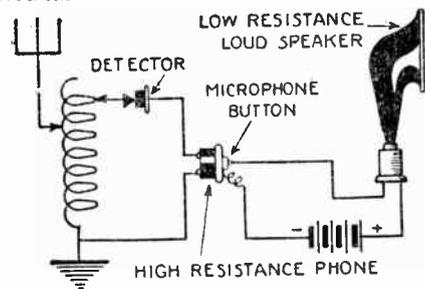
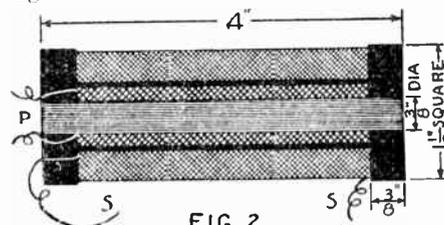
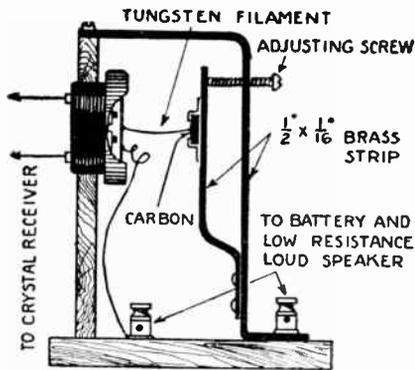

FIG. 1
FIG. 2
FIG. 3
Perhaps the simplest form of relay is that shown at Fig. 1, comprising a microphone button attached to the diaphragm of a telephone receiver. The complete crystal receiver circuit is shown in this illustration. Although the scheme works with a fair degree of success it is very critical in adjustment and the adjustment is not permanent. With its use a low resistance loud speaker is required, one of about five to ten ohms resistance. Those who have the old style Magnavox, having a field electromagnet excited by a battery, can easily adapt it to this circuit by disconnecting the input transformer. The floating coil attached to the diaphragm of this loud speaker has about the correct resistance for this work. Otherwise it
ondary is required. A modulation transformer such as is used for radio telephone transmission work or a telephone induction coil will be suitable. A suitable transformer may be constructed as shown in Fig. 2. It consists of an iron wire core four inches long by three-eighths inches in diameter. The primary winding consists of four layers of No. 26 D. C. C. wire wound directly on the core. Paper insulation is placed over the primary and the entire space between the two end blocks is filled with No. 32 enameled wire.
Going back to our microphone experiments, it was found that the scheme shown at Fig. 1 did not work very well unless the input currents were very strong. In fact a weak station will hardly be audible. The reason is that the button is comparatively heavy and does not follow audio vibrations of small amplitude. In order to amplify weak currents, a very light contact is required, and the contact between a portion of a tungsten lamp filament and a polished carbon plate is excellent. This is clearly shown at Fig. 3. The tungsten filament is attached directly to the diaphragm, and it is not heavy enough to interfere with the vibrations. To attach the wire, it is best to solder one end of the diaphragm. A piece of a polished carbon diaphragm is used for the other electrode. The pressure between this and the wire is made adjustable by the adjustment screw, as shown.
This method gives very good results. The volume and quality of the reproduced music depends largely upon the pressure and the current flowing through the contact. One dry cell is sufficient for the operation, whereas in Fig. 1 three dry cells are required.
Fig. 2 shows a circuit in which the rectifying action of the tube has no effect on the action of the audio transformer. This is accomplished by connecting two fixed condensers in the grid lead (C₁) and (C₂). Condenser (C₂) is of comparatively large capacity, .002 mfd., for it must pass both radio and audio frequency currents. Condenser (C₁) is of small capacity, .00025 mfd., as it should by-pass the radio frequency currents only. The grid leak (R) is required. It should be of one-half to one megohm. With this circuit, the negative charges that accumulate on the grid must leak off through the grid leak (R); they cannot leak off through the secondary of the transformer on account of the blocking condenser (C₂), and therefore cannot balance out the current in the primary of the transformer. Experimenters should obtain very good results from this circuit. The remainder of the circuit needs no special comment as it is standard; all of the circuits shown in this issue and also last month's issue should be tried out with the double grid condenser.
A simplified reflex circuit with the added improvement of the extra grid condenser is shown in Fig. 3. All this circuit requires is a standard three circuit tuner, such as the type shown in the photographic views in last month's EXPERIMENTER. A crystal detector and audio transformer are connected across the tickler winding of the coil. The secondary is connected across the small grid condenser as shown. Note that the condensers have been reversed from the locations shown in Fig. 2, merely to show that there are two ways of obtaining the same result.
The experimenter may try various sizes of fixed condensers across the secondary of the audio transformer and he may also try two grid condensers as shown in Fig. 2. When the proper combination has been found a very good one dial single tube receiving set can be made.